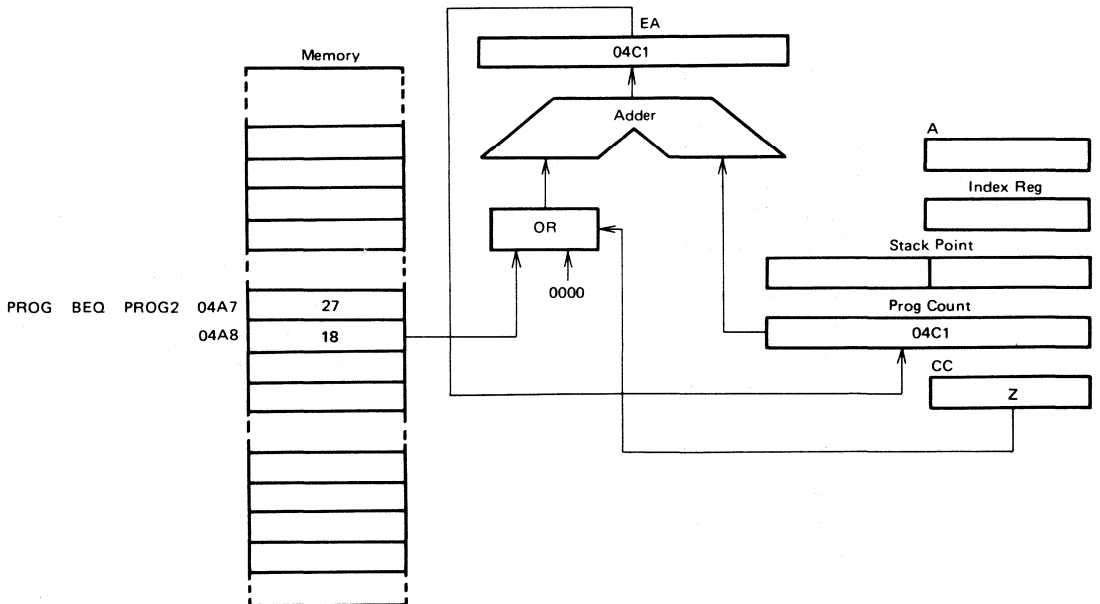

Figure 19 Relative Addressing Example
Refer to Figure 19. The relative addressing mode applies only to the branch instructions. In this mode the contents of the byte following the opcode is added to the program counter when the branch is taken.  $EA = (PC) + 2 + Rel$ . Rel is the contents of the location following the instruction opcode with bit 7 being the sign bit. If the branch is not taken  $Rel = 0$ , when a branch takes place, the program goes to somewhere within the range of +129 bytes to -127 of the present instruction. These instructions are two bytes long.